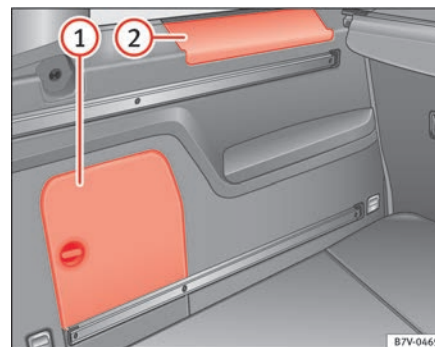

Fig. 113 In the luggage compartment: Side storage compartment.
There are other compartments ⇒ fig. 113 ① and ② in the side of the luggage compartment. To open the compartment ①, turn the catch clockwise. To open the compartment ②, lift the cover. The factory-fitted **CD changer** ▶